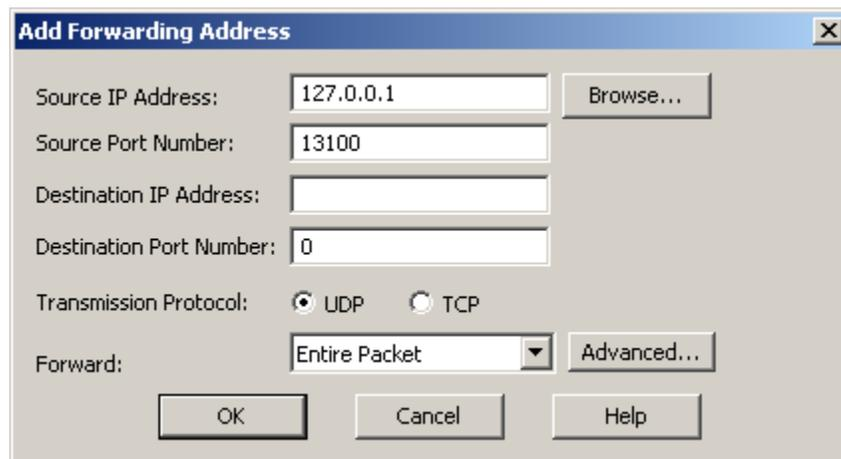

Figure 12 Add Forwarding Address
4. Be sure you're on the **Network Destinations** tab and push the **Add...** button to add a forwarding address to the list. The Add Forwarding Address dialog shown in Figure 12 will be displayed. If you have another machine to try this with add the IP Address